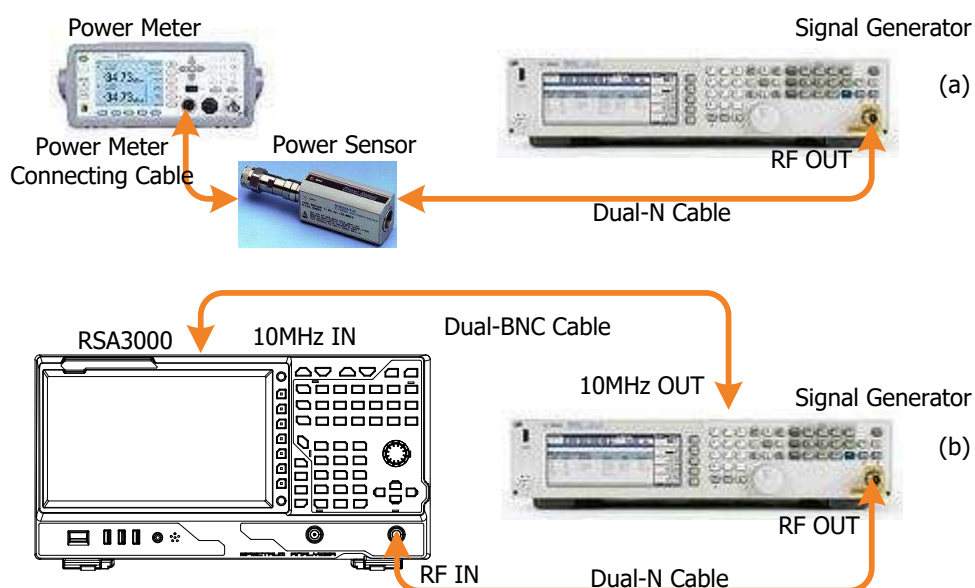

Figure 2-3 Absolute Amplitude Accuracy Test Connection Diagram
- Connect the output terminal of the signal generator with the power sensor, as shown in Figure 2-3 (a).
6. Connect the output terminal of the signal generator with the RF input terminal of the spectrum analyzer, as shown in Figure 2-3 (b).